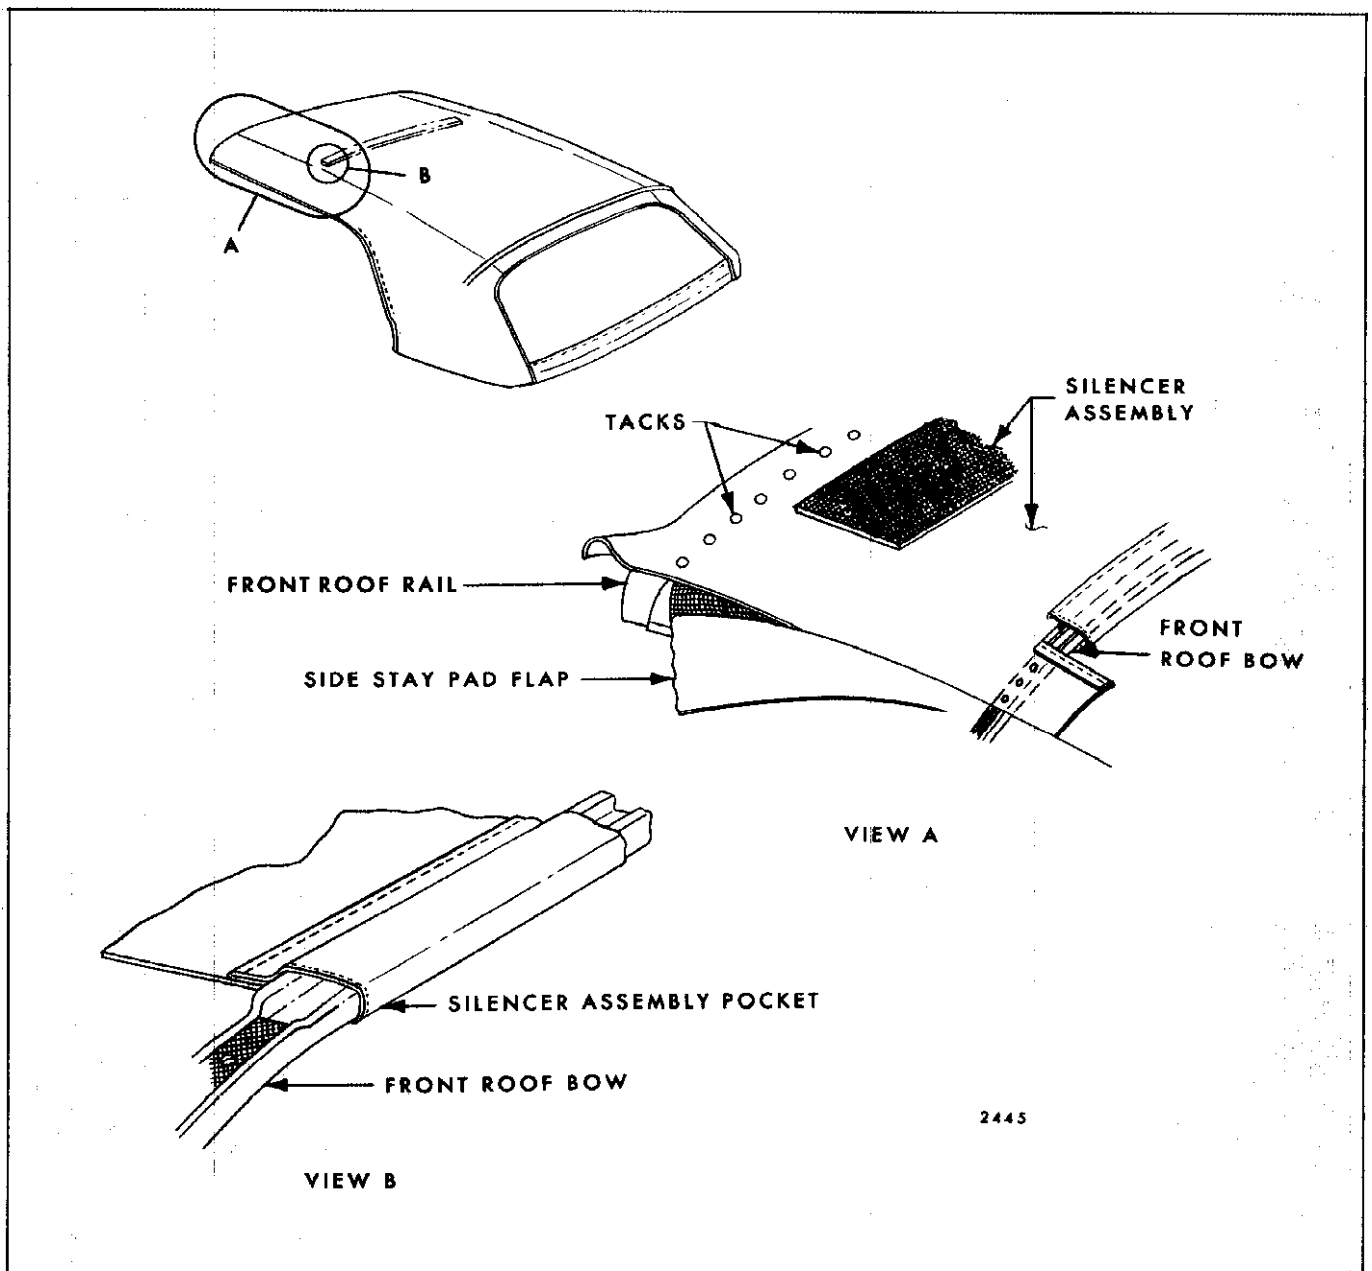

Fig. 13-58 — Folding Top Silencer Assembly
1. With deadener pad on top side of assembly, slip pocket on assembly over front roof bow. (View "B", Fig. 13-58)
5. Tack outboard ends of assembly to front roof rail (View "A" Fig. 13-58).